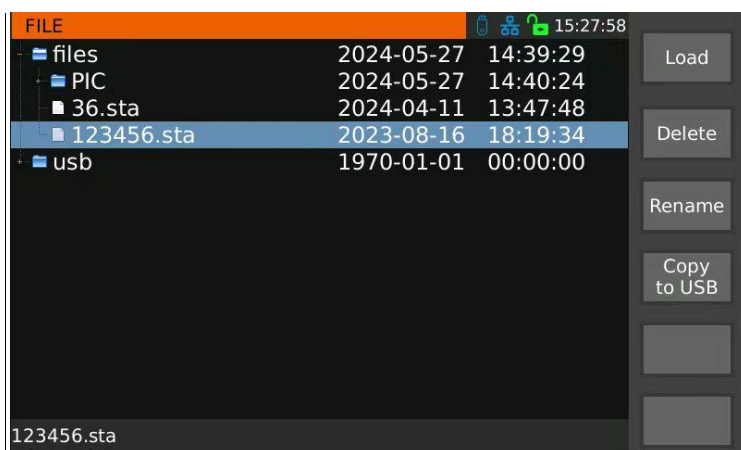

Figure 3-43 Internal File Operation Interface
- 3, through the **[OK]** key or touch the screen to the file you want to set up the project, through the F1 ~ F6 keys can be the corresponding operation, as shown in Figure 3-43 and 3-44.